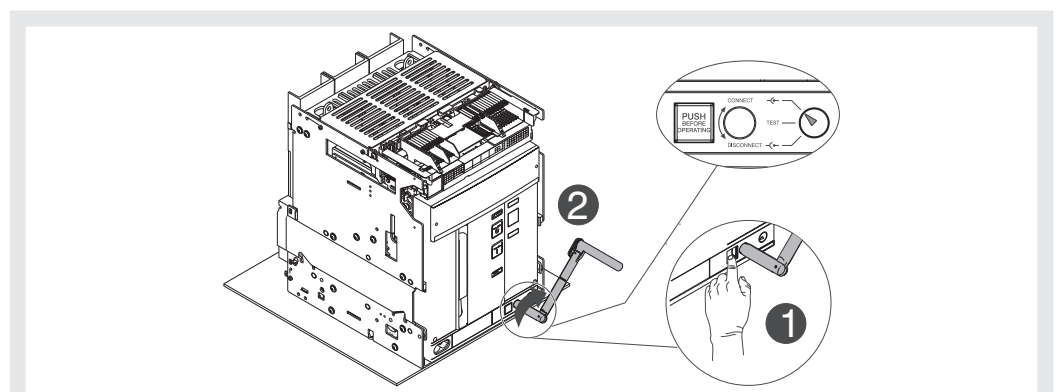

Figure 46
11. Press lock pushbutton and turn handle clockwise until pushbutton projects and signaling device indicates that circuit-breaker is in position **CONNECT**. See Figure 46.